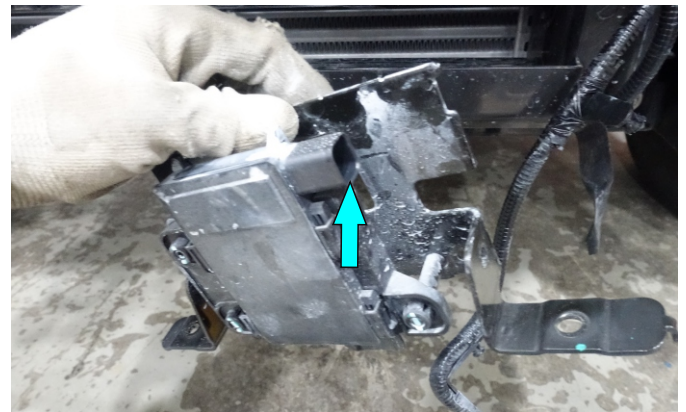

Fig.16
16. Remove the radar cover, unplug an electronic connector (fig.16).